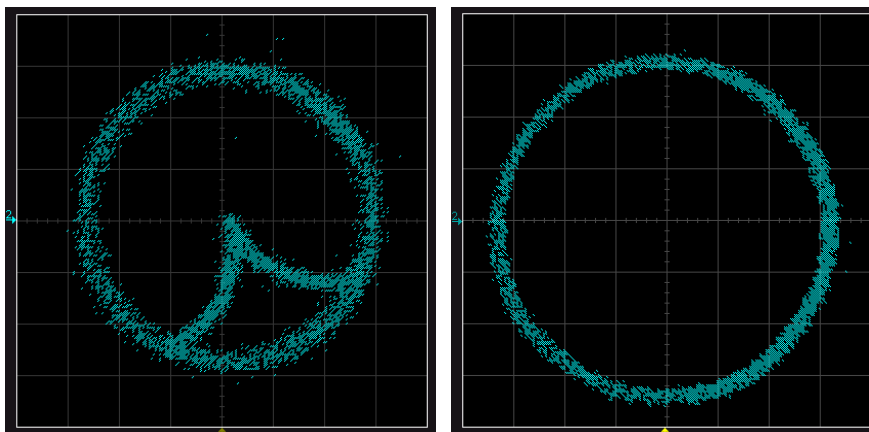

Figure 9.6 Basic principle of position error dependent current amplitude regulation
**EXPLANATIONS RELATED TO FIGURE 9.6**
Figure 9.6 shows the two phase currents for phase A and B as XY-diagram on a scope using two current probes. They show the difference between *current regulator enabled* (left) and *disabled* (right). One complete circle represents a full electrical period of 360°. On the left side, current level regulation is switched on. When moving the rotor away from its target position (in this example somewhere in the lower right quadrant) the current amplitude is increased based on the position error up to its configured maximum amplitude. When approaching the target position the current level is decreased again. On the right side, the current regulation is switched off and current amplitude is always on the configured maximum regardless if there is a position error or not.